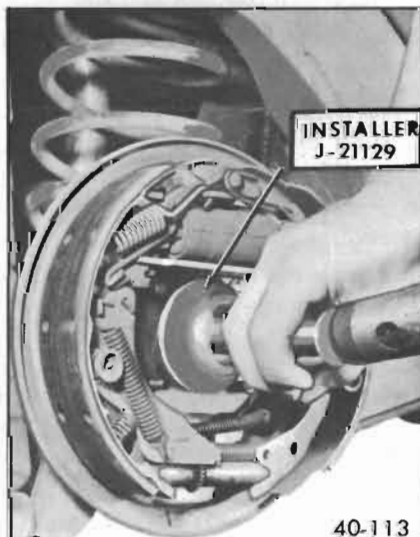

Figure 40-113—Installing Axle Shaft Seal
4. Position seal over Installer J-21129 and drive seal straight into axle housing until fully seated. See Figure 40-113.